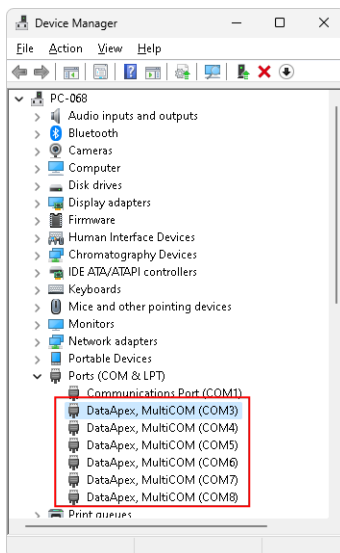

Fig. 3: Device Manager Window
- Locate the item in *Device Manager*. Notice that drivers which are not correctly installed have a warning sign next to them as seen in **Fig. 3** on pg. 6.